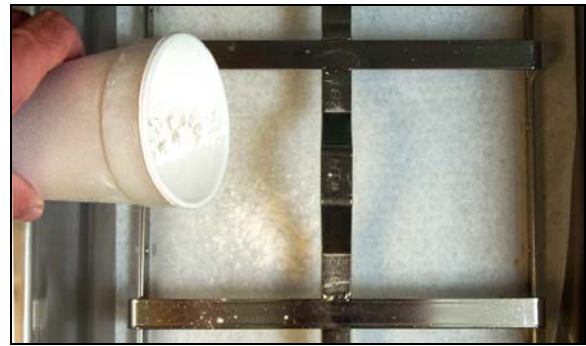

Figure 4
5. When the hold-down ring is in position, if using filter paper, sprinkle one cup of filter powder evenly over the paper. (See Figure 4)